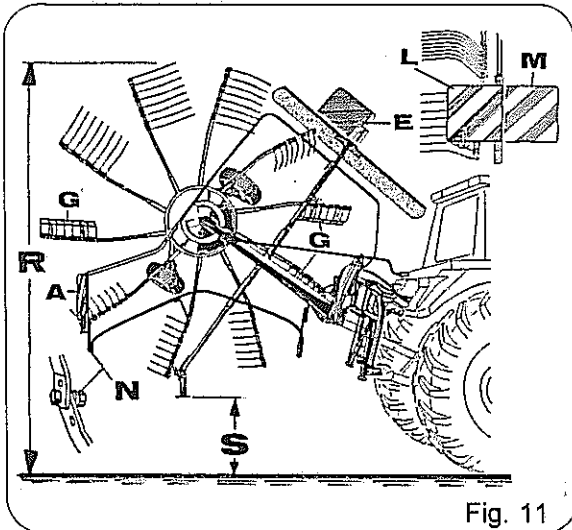

Fig. 11
Swivel the warning sign to inside the of the machine and lock in position (fig. 11, pos. A and L). Push the three protective caps (6 for TWIN 395-DH and TWIN-470-DH) over the tine ends and secure (fig. 11, pos. G).
Pay attention to mount the safety frame correct (fig. 11, pos. N), as if not the safety frame is not foldable.
The dimension "S" (fig. 11) should be with
- Remove coupling connector from tractor and insert in connector holder (see page 12, fig. 11, pos. I).
Before beginning work it is essential to swing back the warning sign from the machine and to lock it in position, and to remove the protective caps on the tine ends (see page 12, fig. 11, pos. M and G).
- Swing the warning sign back from inside the machine (see page 12, fig. 11, pos. M)